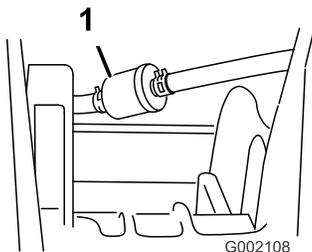

Figure 40
5. Remove the clamps securing the fuel filter to the fuel lines (Figure 40).